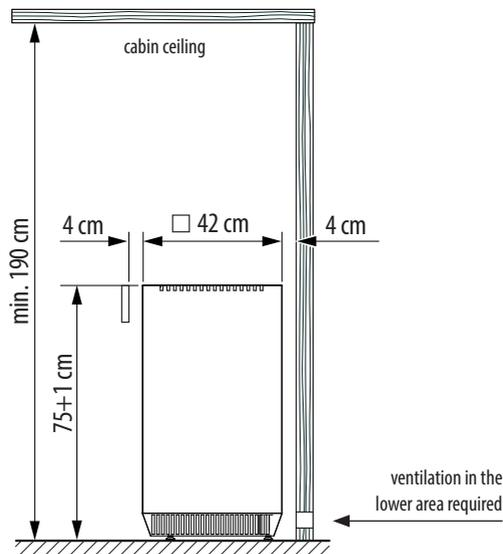

Fig. 1
- The minimum height of the sauna cabin must be **190 cm** on the inside. (Fig. 1).